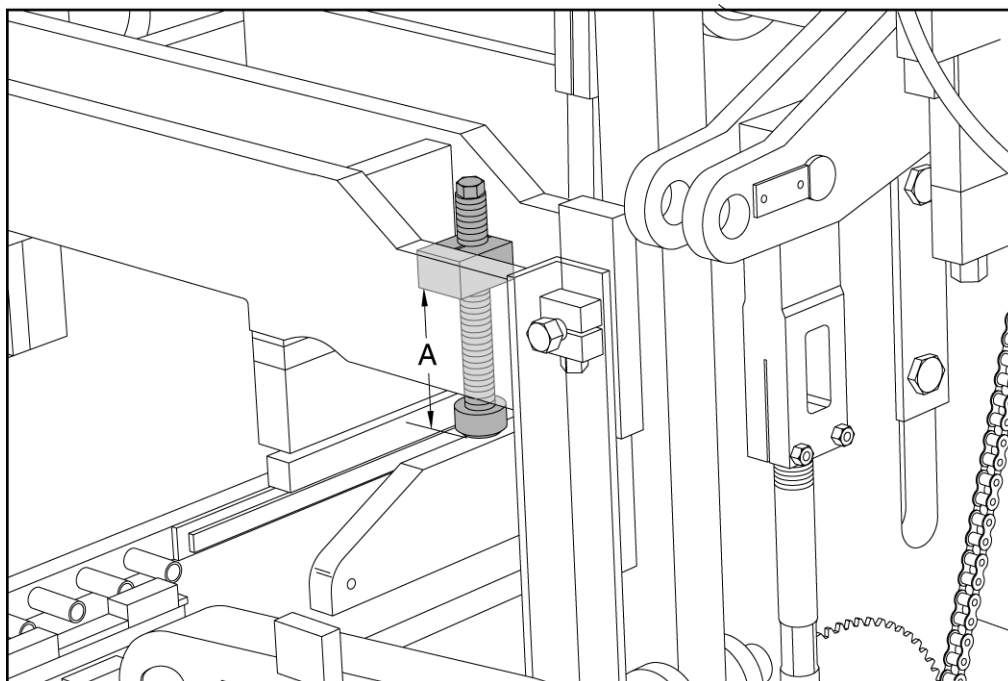

Figure 4.45 INSTALLING SHOCK ABSORBERS AND ADJUSTING
4.3.7 Install the **445mm (17 1/2")** shock absorbers (**part #395992**). Adjust the shock absorbers to a dimension of **300mm [11.812"]** (represented by "A" in figure 4.45) from the bottom of the